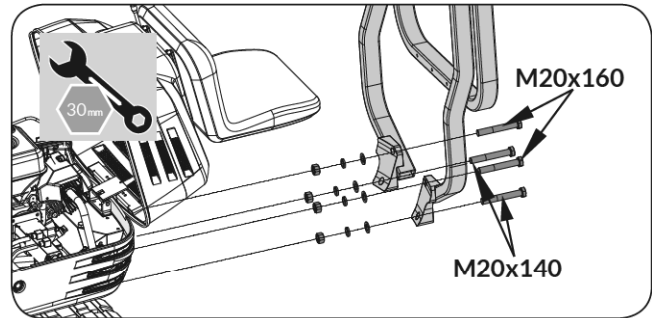

Figure 121
2. Align the holes in the lower frame of the canopy with the holes in the swing unit platform as shown. Secure the upper connection with provided M20x160 bolts, washers and nuts and the lower connection with M20x140 bolts, washers and nuts. (See **Figure 121**)